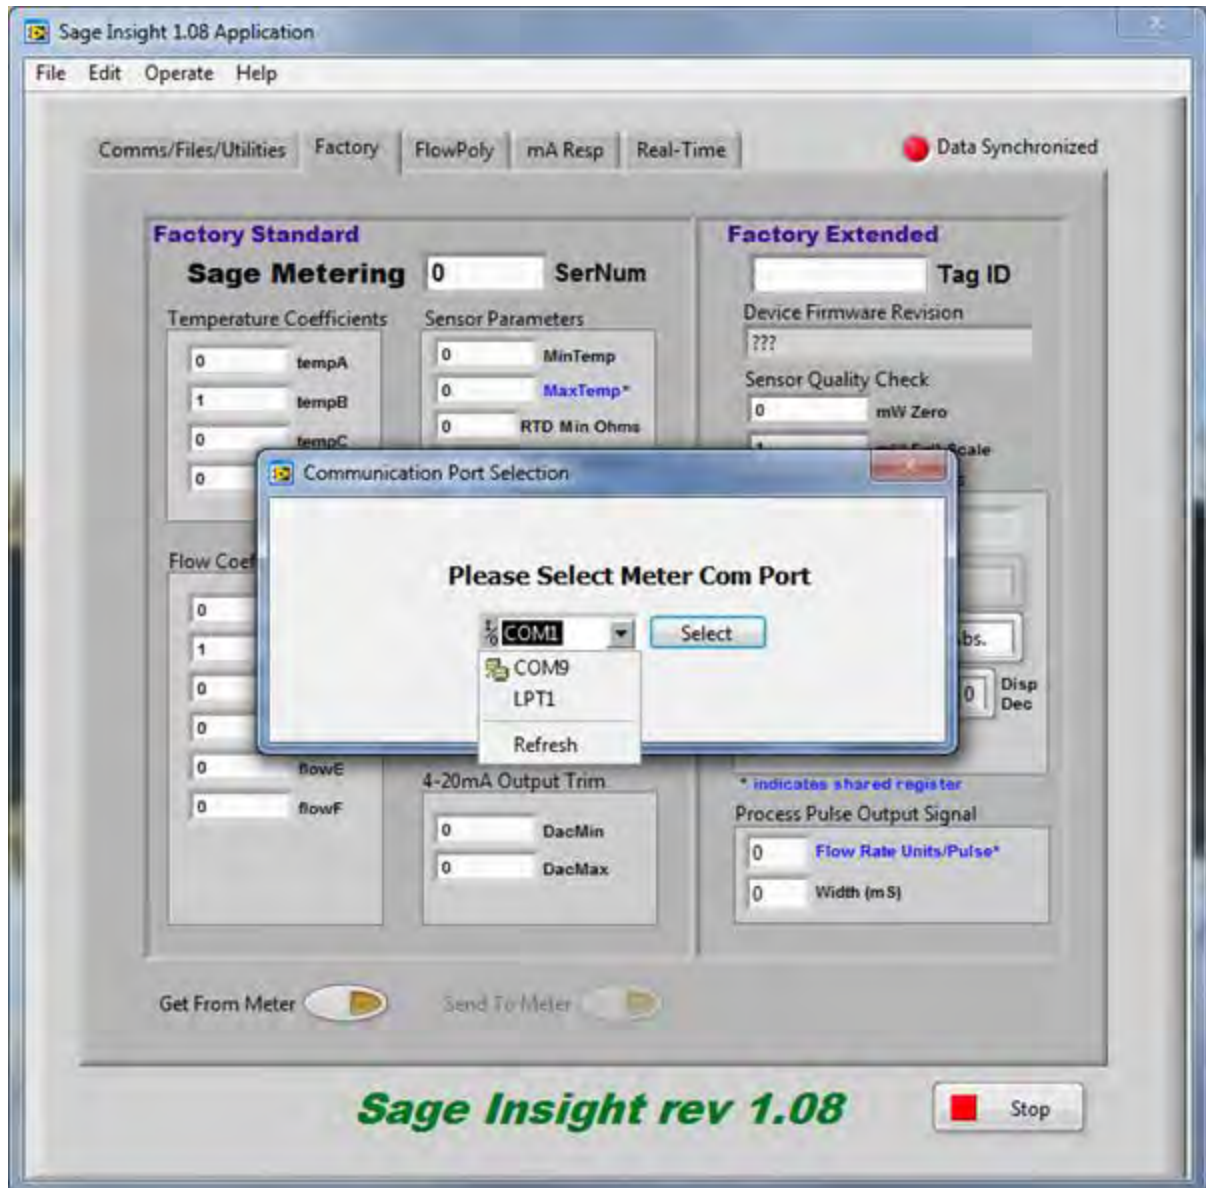

Figure 1
1. Open the *INSIGHT* program and see Figure 1.
3. Find the proper COM port for your RS 485 adapter and click on select (Figure 1).